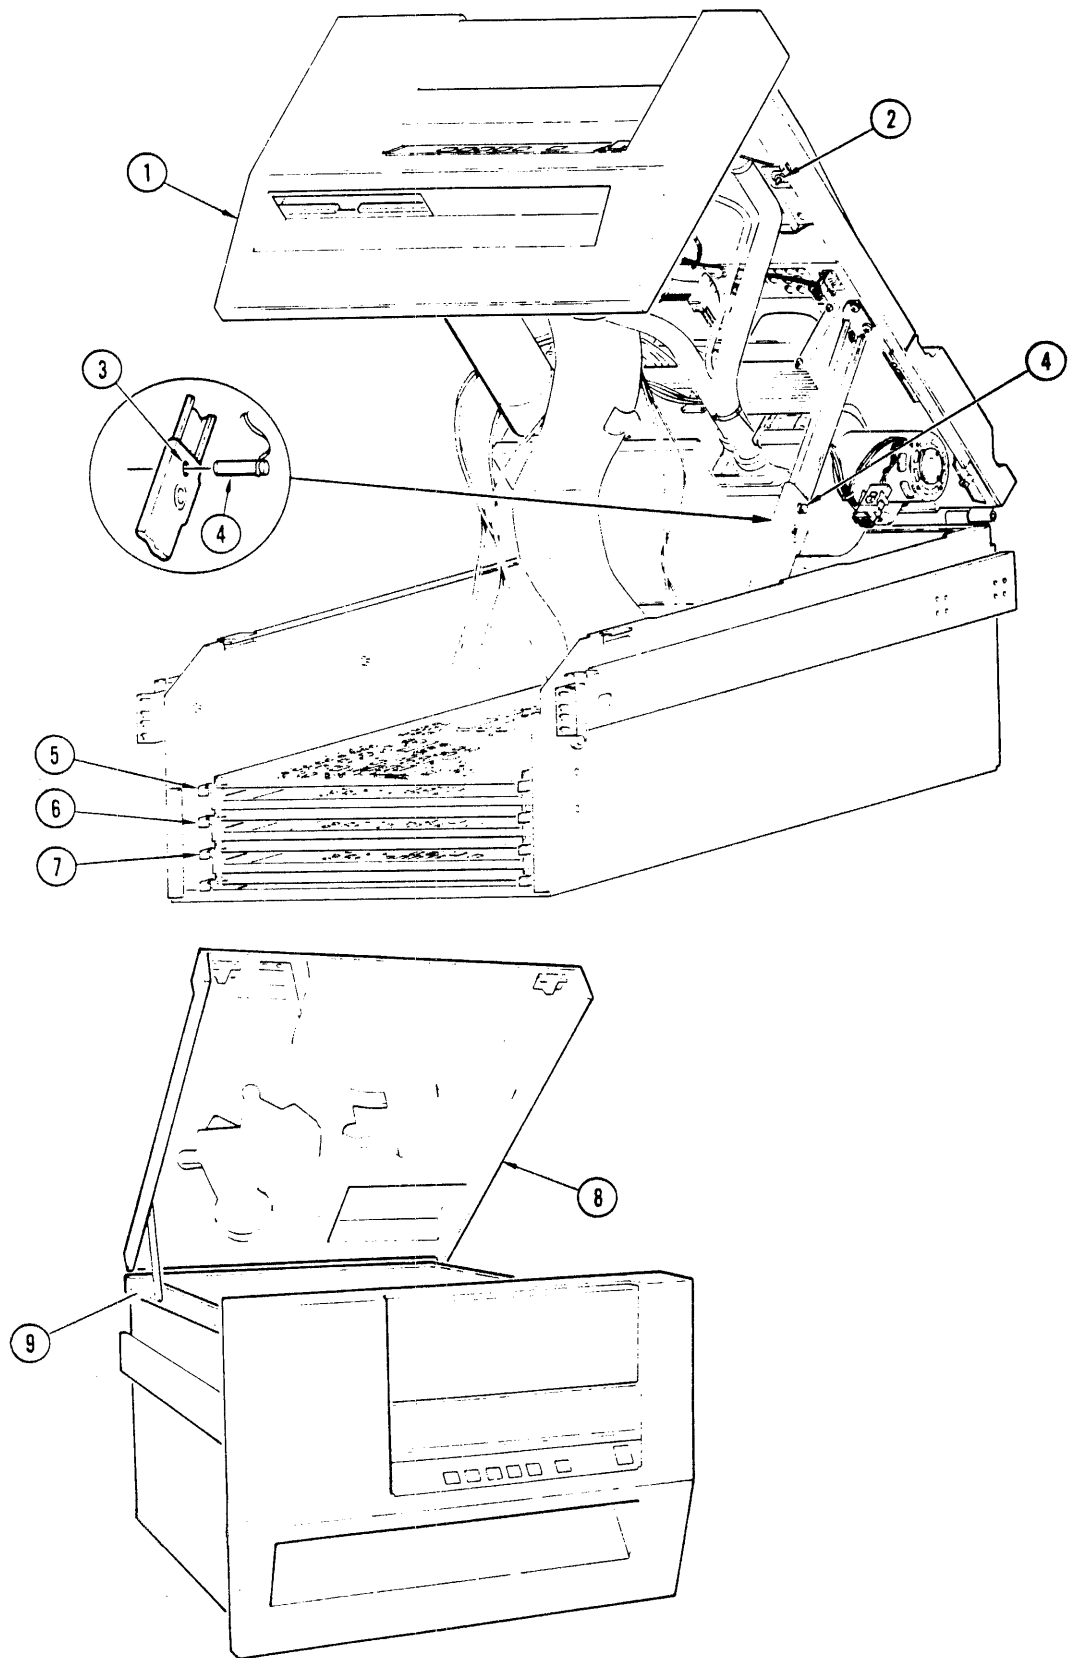
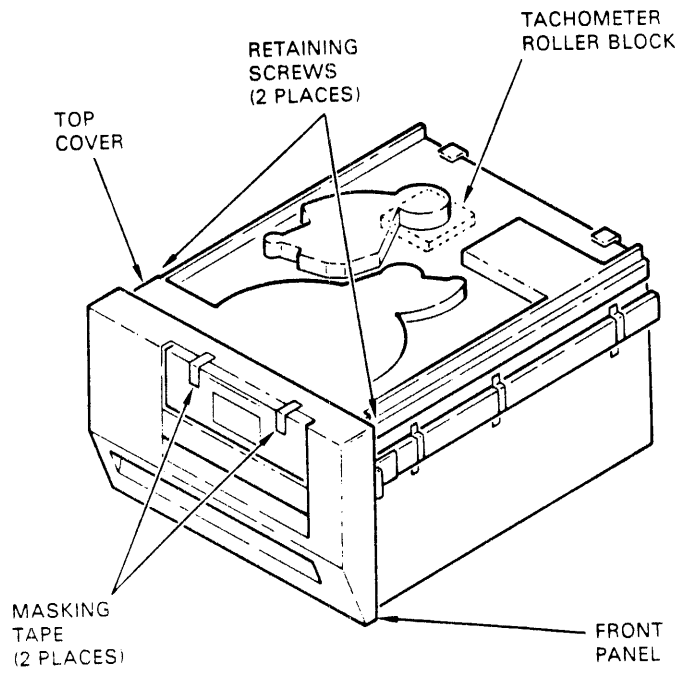

Figure 3.
Figure 4.
19. Loosen the two spring-loaded screws (2) on both sides of the base plate. See Figure 3.
21. Lift up on the two lower corners of the front panel to its maximum position. The latch mechanism locks in an upright position. Install the locking pin (4) provided.
**Insert the provided locking pin (4) into the hole (3) in the tape unit support arm. Never service the tape unit in the service position unless you install the locking pin. See Figure 3.**
23. Return front panel to its original position and tighten the two spring loaded screws (2) on the top base plate.
2. Open the top cover and install the Tach Roller Block on the take-up hub. See Figure 4. Loosen the chassis retaining screws and place the drive in the service access position. Use the support pin; see Figure 3. Insert the three thin foam pads in between the PWBs; insert the two foam blocks between the PWBs and the chassis, one on each side of the PWBs. Remove the safety pin, close the drive, and tighten the retaining screws.